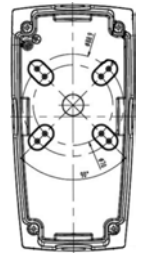

Fig. 1
1. Install the fixture to wall surface according to Fig 1 & 2,
2. Open the fixture by removing the four (4) screws located on the corners of the front housing.